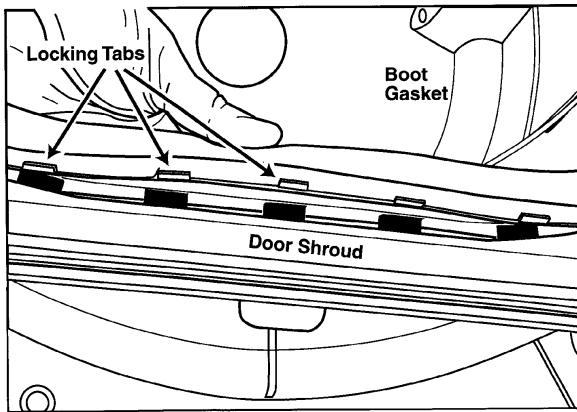

Figure 5-9
2. With the door open, unsnap the boot gasket from around the inside perimeter of the door opening by pulling out on the sealing lip of the gasket (**Figure 5-9**).